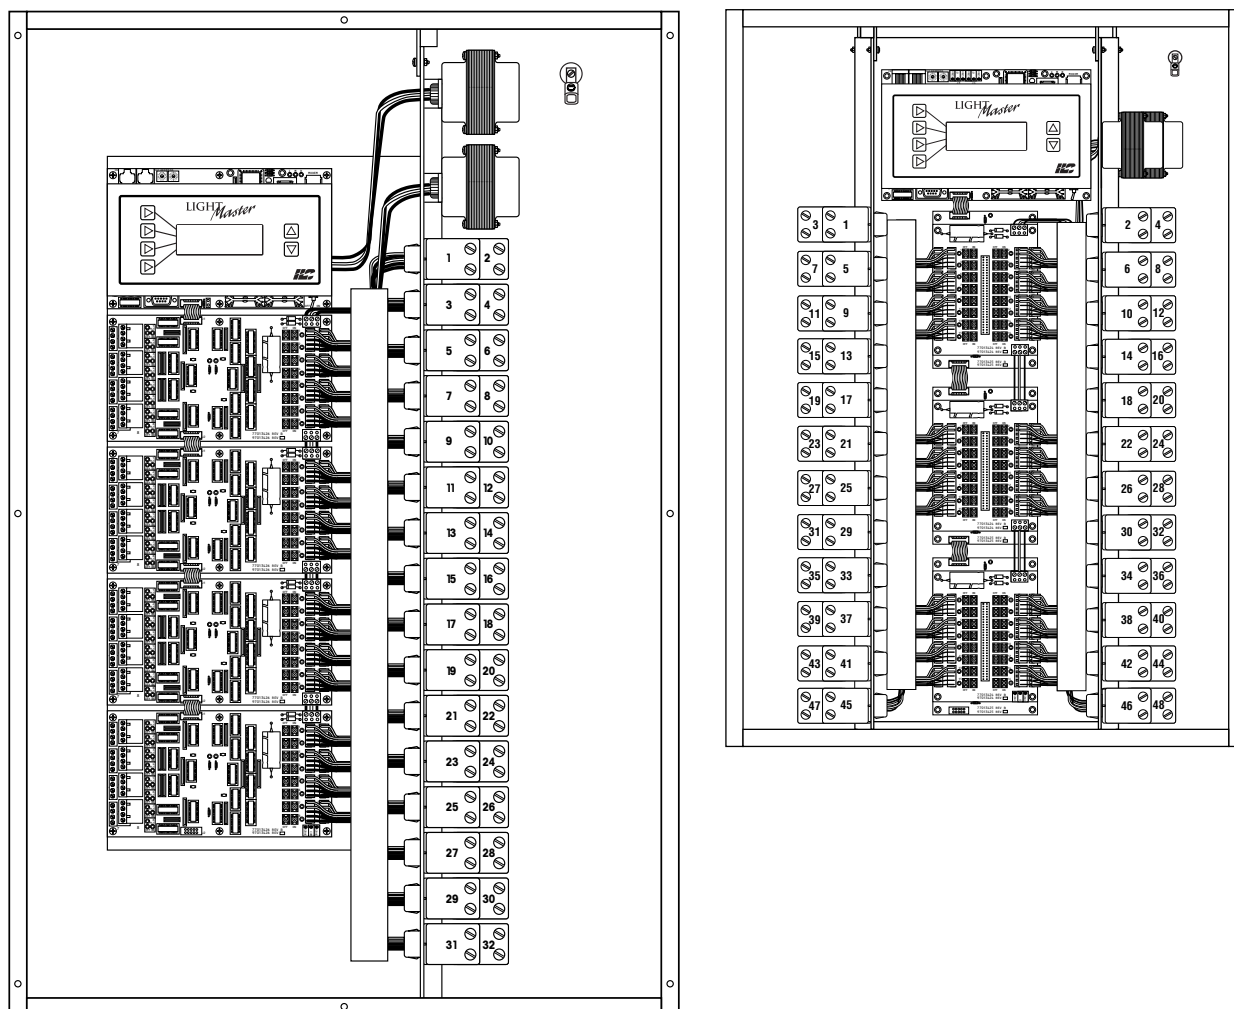

Figure 1.3 – LightMaster 32 and LightMaster 48DS
1.1.4 I/O Board(s) – Each I/O board adds eight (8) switch inputs and relay outputs. The LightMaster double-sided version has 16 relay outputs per board and no switch inputs. Both inputs and outputs are optically isolated. Additional boards can be added to the appropriate size enclosure to provide a controller capacity of up to 48 switch inputs and 48 switch relay outputs. (See Figure 1.3, which illustrates a LightMaster 32 and LightMaster 48DS double sided controller.) Major components include: